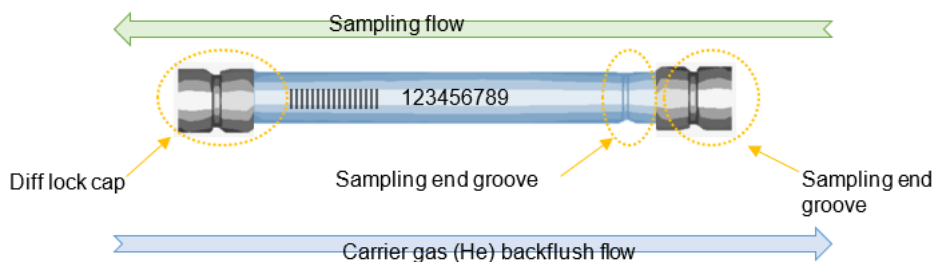

Figure 14. Sorbent tube diagram showing the sampling and carrier gas flows.
4.4.2 To load tubes onto the UNITY-xr tube oven, use the left-hand lever mechanism. Before inserting a sample, ensure the tube oven is relatively cool and remove the DiffLok caps. Orientate the tube such that the sampling grooved end is pointing the rear of the instrument (Figure 14).